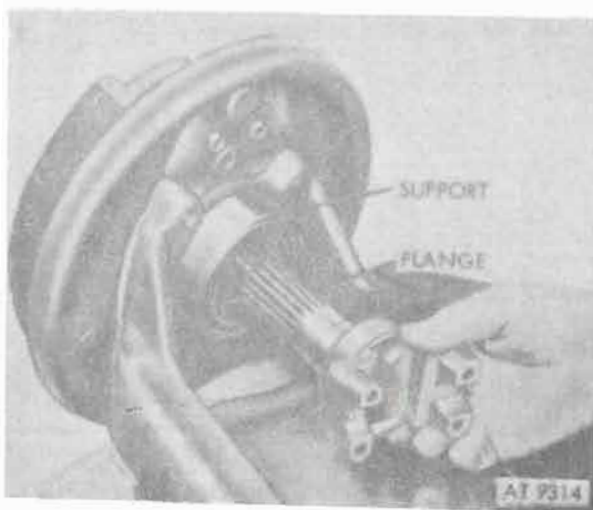

Figure 11-15. Rear wheel support and flange.
d. Remove flange from support (fig. 11-15).